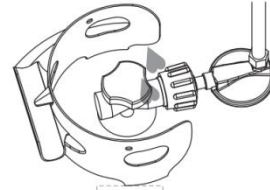

Fig. 2
- Apply several drops of solution where regulator connects to the cylinder (Fig. 2).